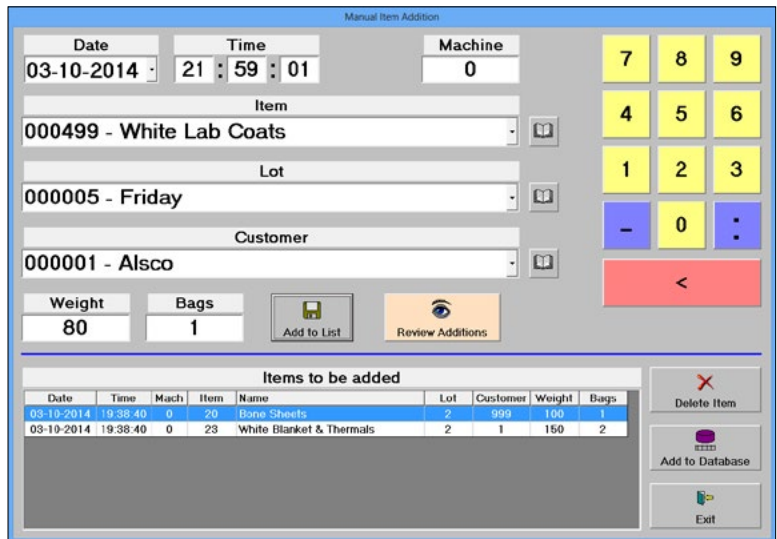

Figure 10. Manual Item Addition dialog. Enter the bag details. Press Add to List. Save the list by pressing Add to Database.
8. Press the **Add to List** button (see Figure 10). Note: The items do not get added to the database until you complete step 11.
7. Set the bag weights. Establish a **Desired Bag Weight** and allow a 20-pound variance between the **Min** and **Max Bag Weights** (see Figure 10).